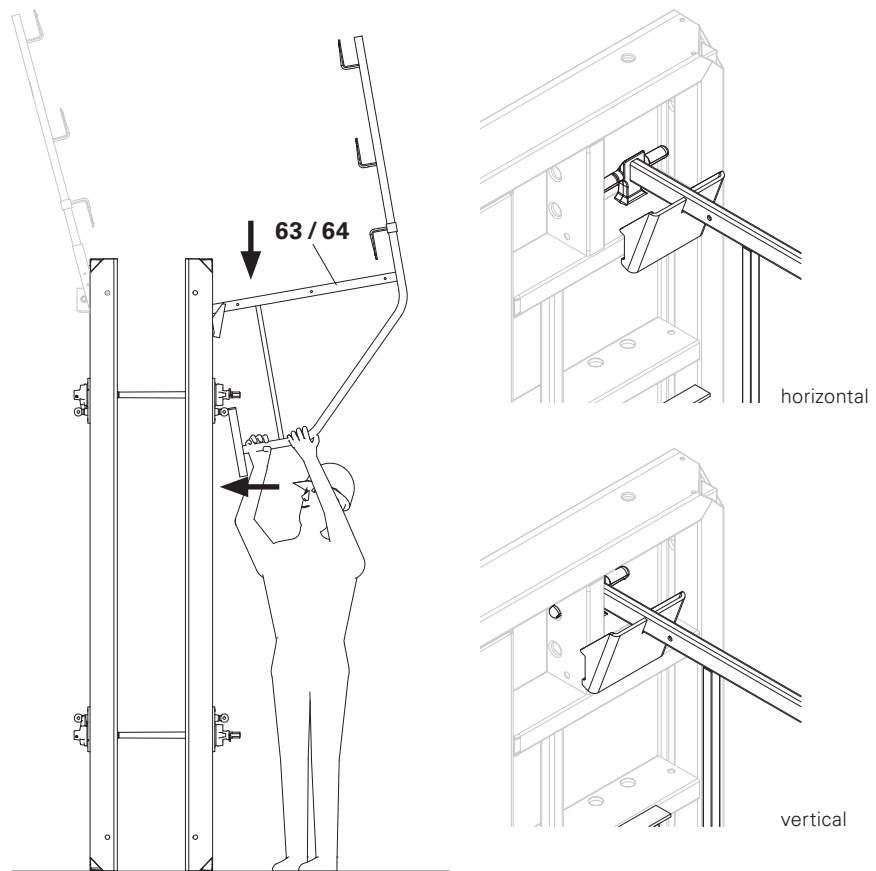

Fig. A7.08
1. Hook in Scaffold Brackets (63 / 64) into the connecting holes of the panels. It is possible to use both the horizontal and vertical panel struts. (Fig. A7.08)